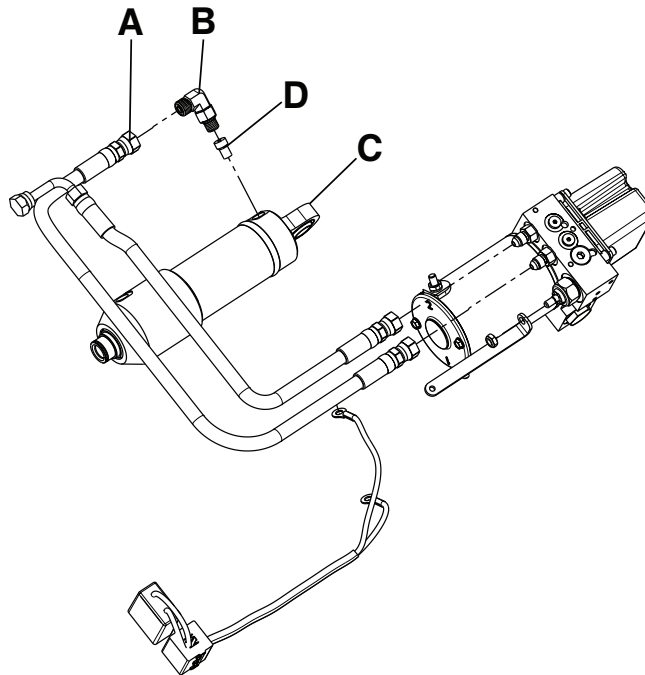

Figure 37 – Velocity fuse components
- Using an 11/16" combination wrench, disconnect the hydraulic hose (A) closest to the mounting bracket at the head end of the trolley (Figure 37).
- Using a 5/8" combination wrench, loosen (do not remove) the jam nut on the cylinder hose fitting (B) and unthread the fitting from the hydraulic cylinder (C) (Figure 37). Save all parts.
- Using a 1/8" hex wrench, remove the velocity fuse (D) from the hydraulic cylinder (C) (Figure 37). Discard the fuse.